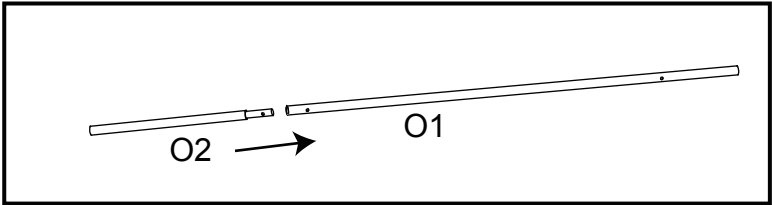

Fig11.1
11.1. Insert the Sliding Tube (O2) into the Sliding Tube (O1), See Fig11.1.